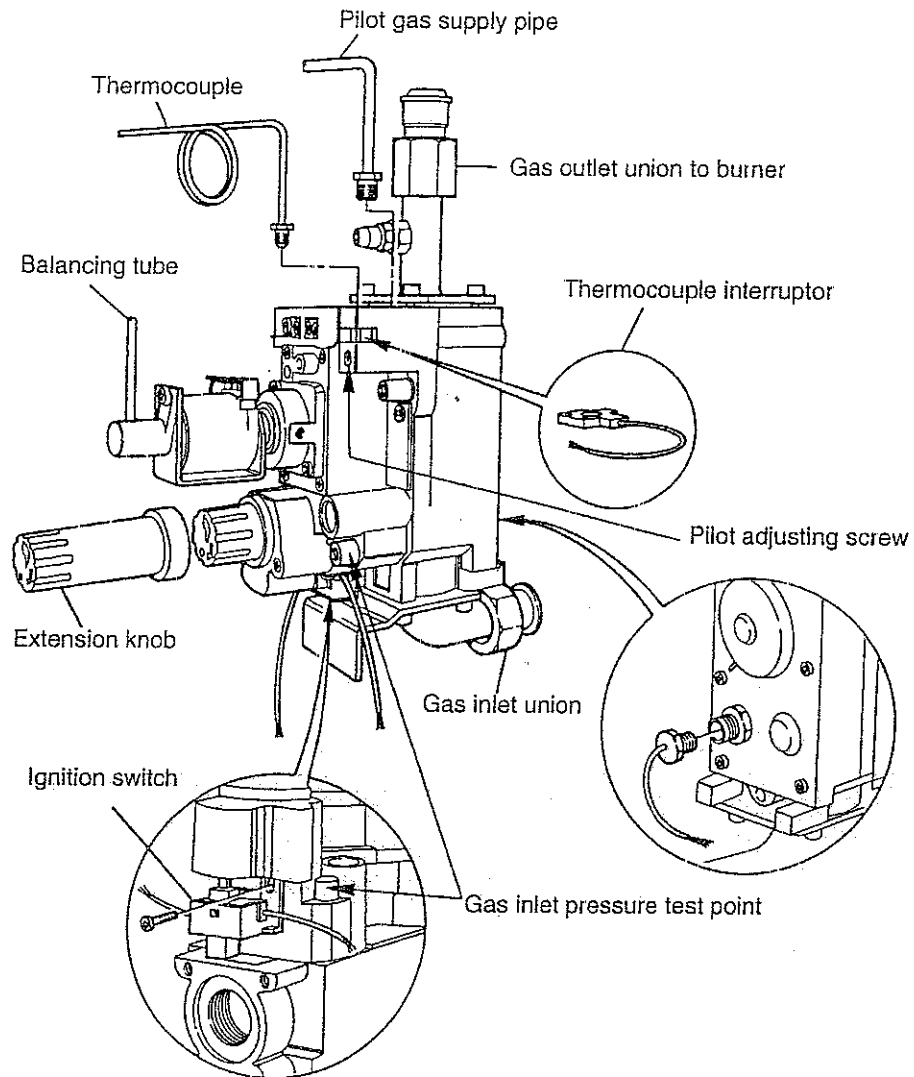

Fig. 31
- b) Disconnect the thermocouple from the Honeywell valve (use a 10 mm spanner) (fig. 31)
- c) Unscrew the pilot supply pipe compression nut from the Honeywell valve (fig. 31).
6.0 HONEYWELL GAS VALVE (fig. 31)